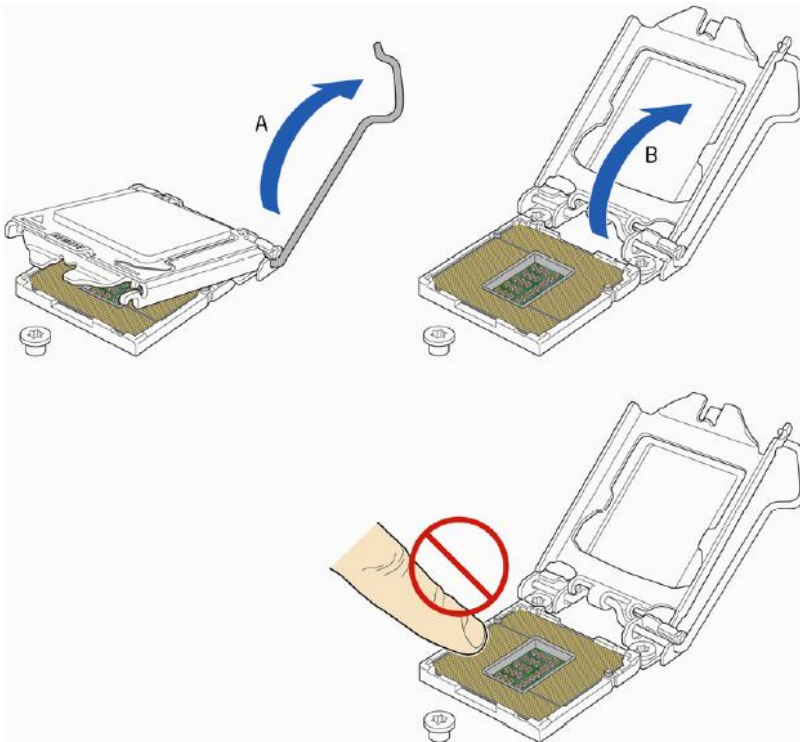

Figure 13: Lift the load plate
2. Rotate the socket lever to lift the load plate away from the socket (Figure 13, A). Make sure that the load plate is in the fully open position (Figure 13, B) while being careful not to damage adjacent components. Do not touch the socket contacts.